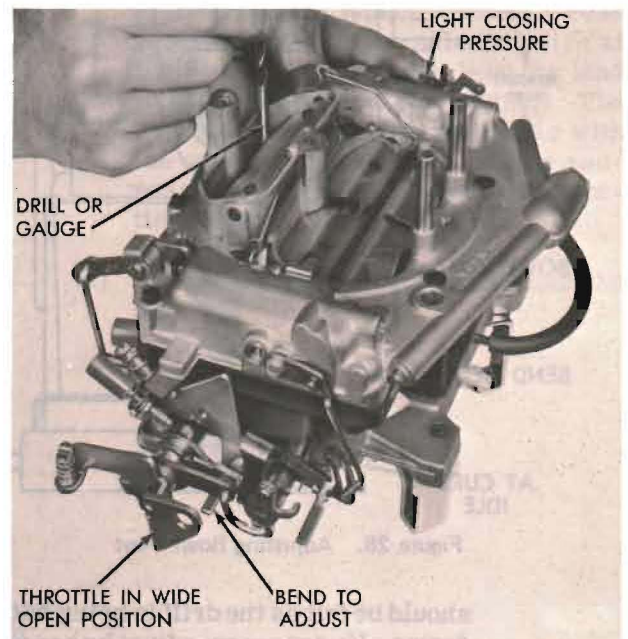

Figure 26. Adjusting Choke Unloader
- (1) Hold throttle valves in wide open position. Insert specified (see specifications) drill between long side (lower edge) of choke valve and inner wall of air horn. (See figure 26.)
- (2) With the finger pressing lightly against the choke control lever, a slight drag